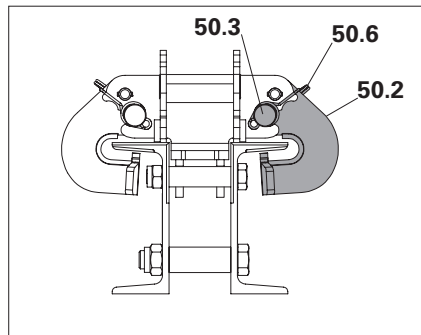

Fig. D5.01
The safety pins (50.3) hold the guiding skids (50.2) in a closed position. (Fig. D5.01 + D5.01a)
1. Release the locking spring (50.6). For this, pull out the ring under the guiding skid (50.2). (Fig. D5.01 + D5.01a)